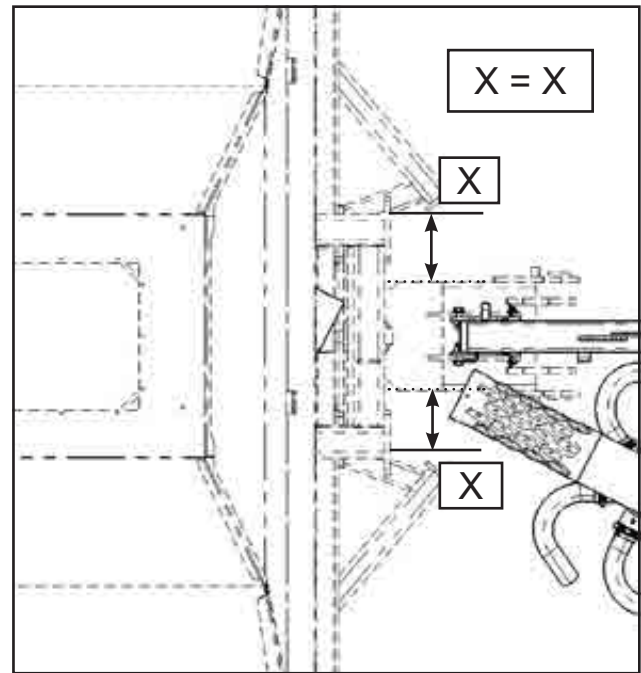

Figure 1.10 - Front Hitch - Centered
1. Verify that the front hitch is centered. Check that measurements labelled "X" in *Figure 1.10* are equal.